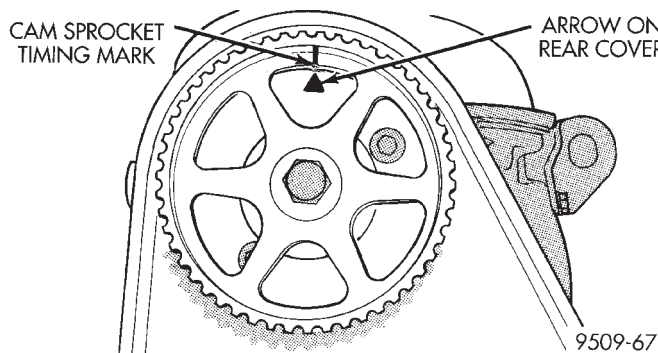

Fig. 40 Camshaft Timing Marks
- Check the timing mark on the camshaft sprocket, it should align with the arrow on the rear belt cover (Fig. 40).